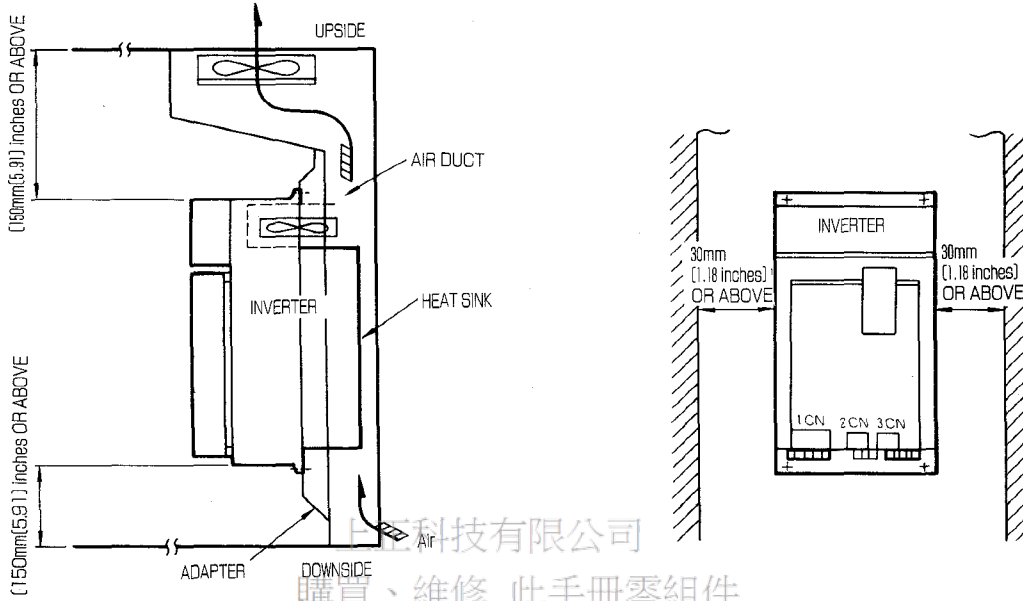

Fig. 4.7 Side View of Installation 037-466333 Fig. 4.8 Front View of Installation
- (3) Avoid harmful gases and liquids. Avoid locations where there is excessive dust or iron particles.
- (4) Design cooling air ducts and heat exchangers adequate to dissipate heat output from the inverter. Table 4.4 lists heat dissipation from inverters of different capacities.
- (5) The inverter houses a heat sink cooling fan on the back. Leave 150 mm or greater clearance on the upper (exhaust) and lower (entry) sides of the fan to prevent cooling performance deterioration. Table 4.4 lists required cooling air capacity for inverters of different capacities.
- (6) Although the control panel built-in type inverter is operable at 0°C to +55°C, input air to the heat sink must be 45°C or cooler.
- (7) Input and output terminals and control signal connectors are on the bottom of the inverter. Provide clearance under the inverter for wiring.
- (8) As shown in Fig. 4.7, cooling efficiency can be improved by making the control panel itself into an air duct and projecting the inverter unit in the duct to expose the heat sink directly to cooling air. If a heat exchanger is required, the capacity can be reduced by this method.
- (9) Place packing on the unit mounting portion to prevent entry of dust.
- (10) When the inverter unit is mounted on the same plane as the servo unit, use an adapter for the inverter unit to compensate for the difference of the heat sinks. (See Fig. 4.7.)
- (11) When circulating air in the cabinet for cooling, do not blow the air directly against the inverter unit.
- (12) Take periodical inspection and maintenance of the inverter into account when designing